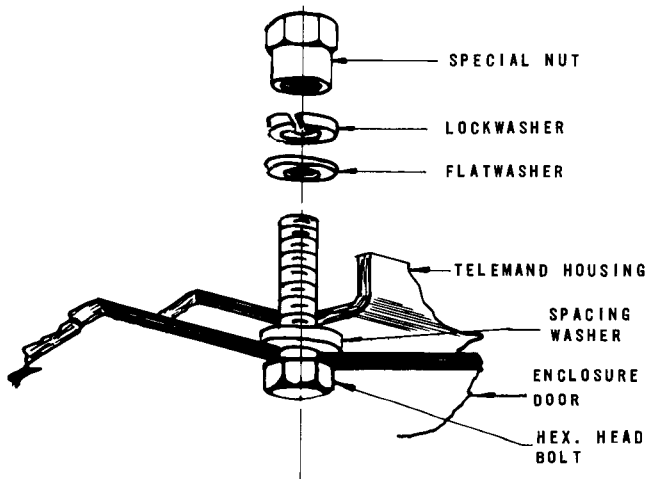

Figure 1
6. Place the Telemand over circuit breaker operating handle protruding through enclosure door. Drill the enclosure door, using the four (4) 11/32 Dia. holes in Telemand housing as a template. Holes in door to be 11/32 Dia.
7. Push hex head bolts (furnished) through drilled holes from the interior of the enclosure and add spacers (furnished) to bolts on outside. (See sketch Fig. 1, next page.) Place Telemand over the protruding bolts, add flatwasher, lockwasher and special nut (furnished) to each bolt and tighten securely.
1. Drill four breaker mounting holes (U) per drilling plan on outline drawing
3. Measure distances "A" and "B" from walls of enclosure. See Fig. 1.
Breaker Mounting Surface Figure 1
1. Drill four breaker mounting holes (U) per drilling plan on outline drawing.